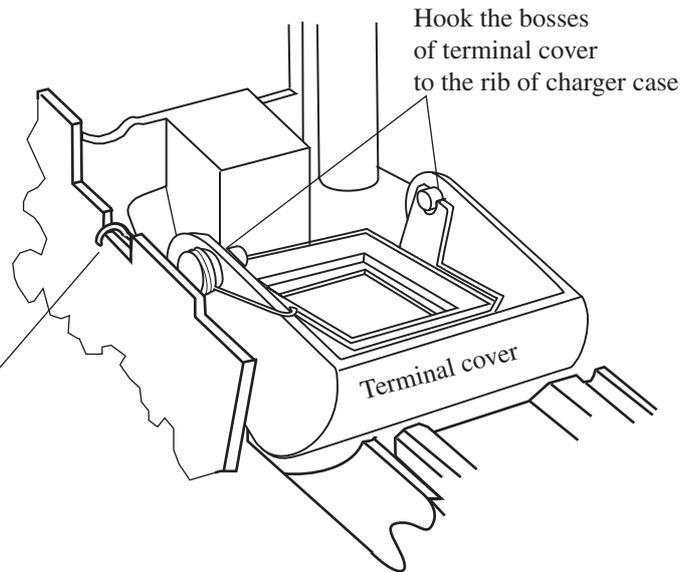

Fig. 6 (Bottom view of charger case)
3. Hook the torsion spring 14 to the rib of charger case from its inside as illustrated in Fig. 6.
4. Hook the boss of terminal cover to the rib of charger case as illustrated in Fig.6.